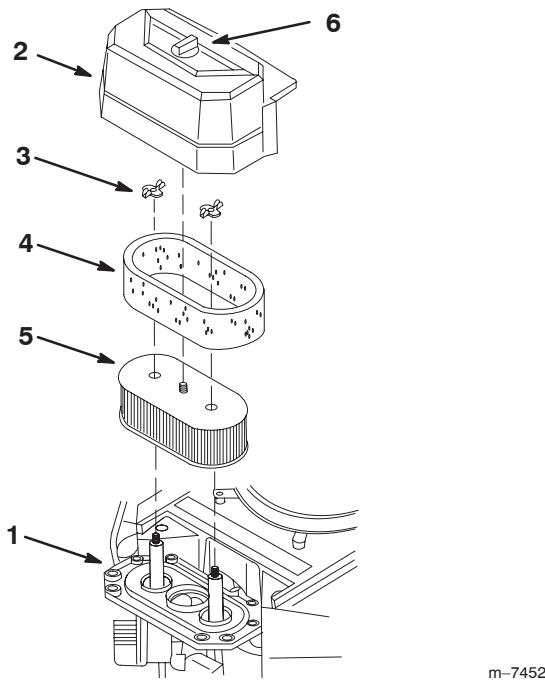

Figure 28
3. Clean around the air cleaner to prevent dirt from getting into the engine and causing damage (Fig. 28).
4. Unscrew the cover knob and remove the air cleaner cover (Fig. 28).
5. Unscrew the 2 wing nuts and remove the air cleaner assembly (Fig. 28).
6. **Carefully** pull the foam element off the paper element (Fig. 28).
1. Lightly tap the element on a flat surface to remove dust and dirt (Fig. 28).
1. Carefully slide the foam element onto the paper air cleaner element (Fig. 28).
2. Place the air cleaner assembly onto the air cleaner base and secure it with the 2 wing nuts (Fig. 28).
3. Place the air cleaner cover into position and tighten the cover knob (Fig. 28).